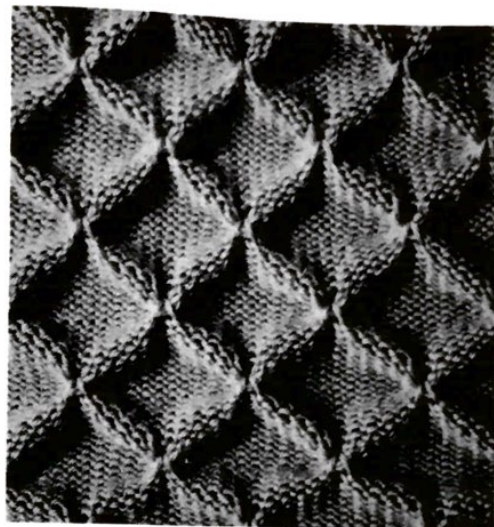
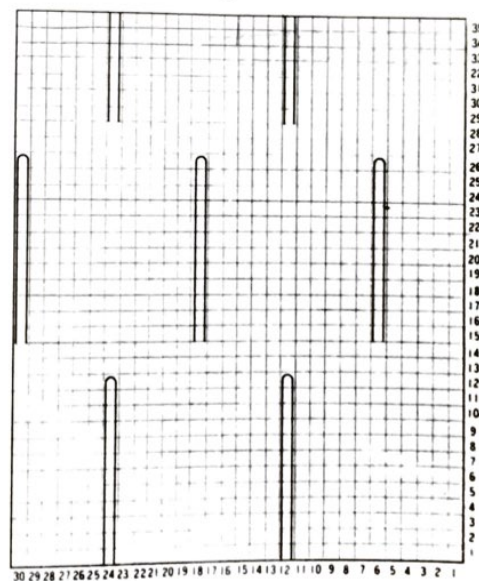

Fig. 24
Fig. 25
As in the case of Colour Pattern work if the Tucking Pattern repeats at intervals of 11 or more stitches (Figs. 24 & 25) the following manual method is employed.
Knit the number of rows required by the pattern with the selected needles remaining in the Holding Position. In the pattern illustrated at Fig. 24 every 12th needle is in Position (E) and 11 rows are knitted with these needles remaining in the Holding Position.
(3) Before knitting the 12th row of the pattern illustrated at Fig. 24 the Return Cam Levers are pulled FORWARD into Position "2" so that the holding needles will knit along with the rest. At the end of the 12th row the Return Cam Levers must be pushed BACK into Position "1". After 3 rows of knitting over all the needles another sequence of single needles is brought forward into Position (E) and the procedure is repeated. (Figs. 25, 26 & 27)